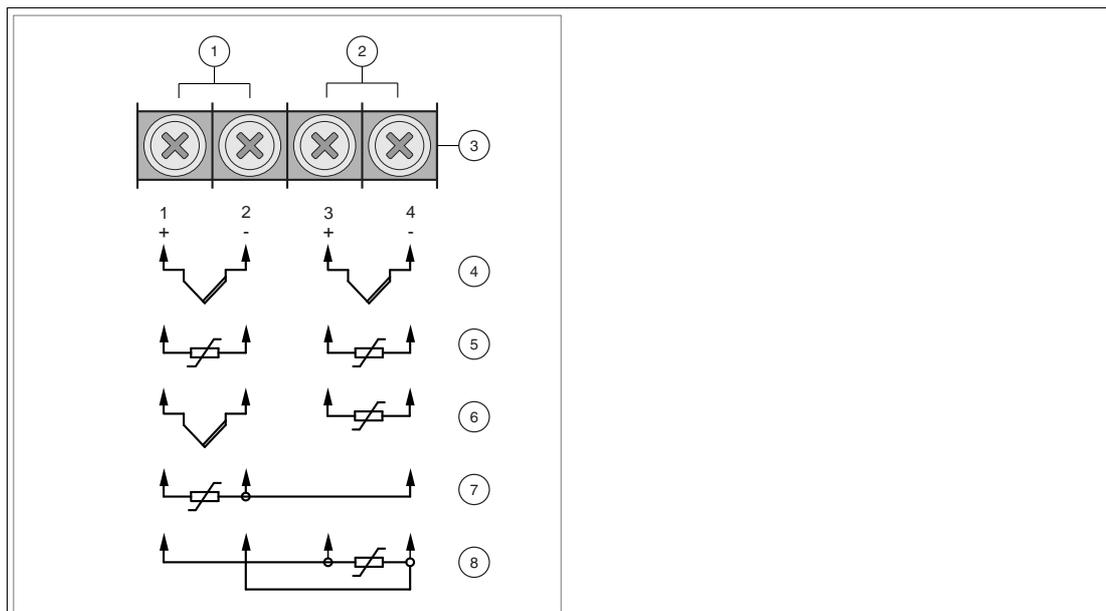

Figure 3.6 Connecting the sensors
4. Connect the temperature sensors to the corresponding terminals of the sensor interface according to the following figure. → see Figure 3.6 on page 18